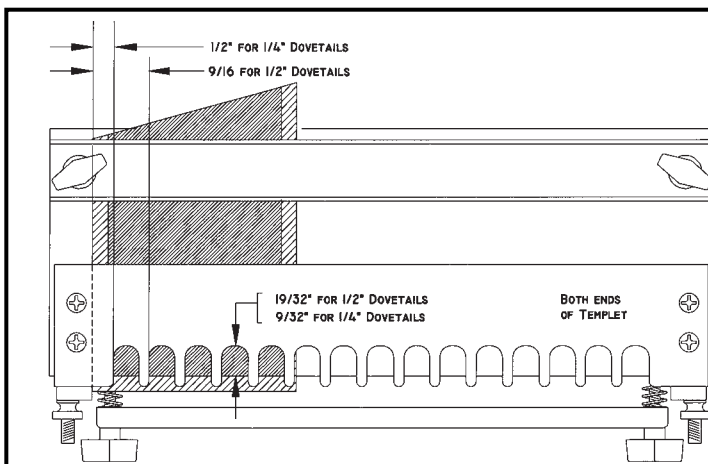

Fig. 17
1. Position drawer front "inside up" on top of machine maintaining dimensions to templet shown in Fig. 17. A gauge block with a 3/8" rabbet may be used to position drawer front as shown in Fig. 17A.